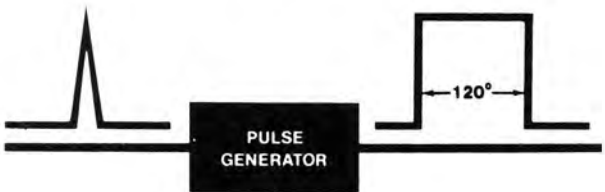

Fig. 17
16) are spikes varying in phase relationship with one another. This variation may be from 90 to 180 degrees, depending upon the instantaneous applied audio. The amount of displacement from the nominal 135-degree carrier condition is equivalent to the amplitude of the modulated waveform. The rate at which the two pulses are displaced from the nominal 135-degree carrier condition is equivalent to the frequency of the modulated waveform. These two spikes are fed to pulse generators (Fig. 17) in the solid state ampliphase exciter, whose width is nominally set at the factory for 120 degrees.